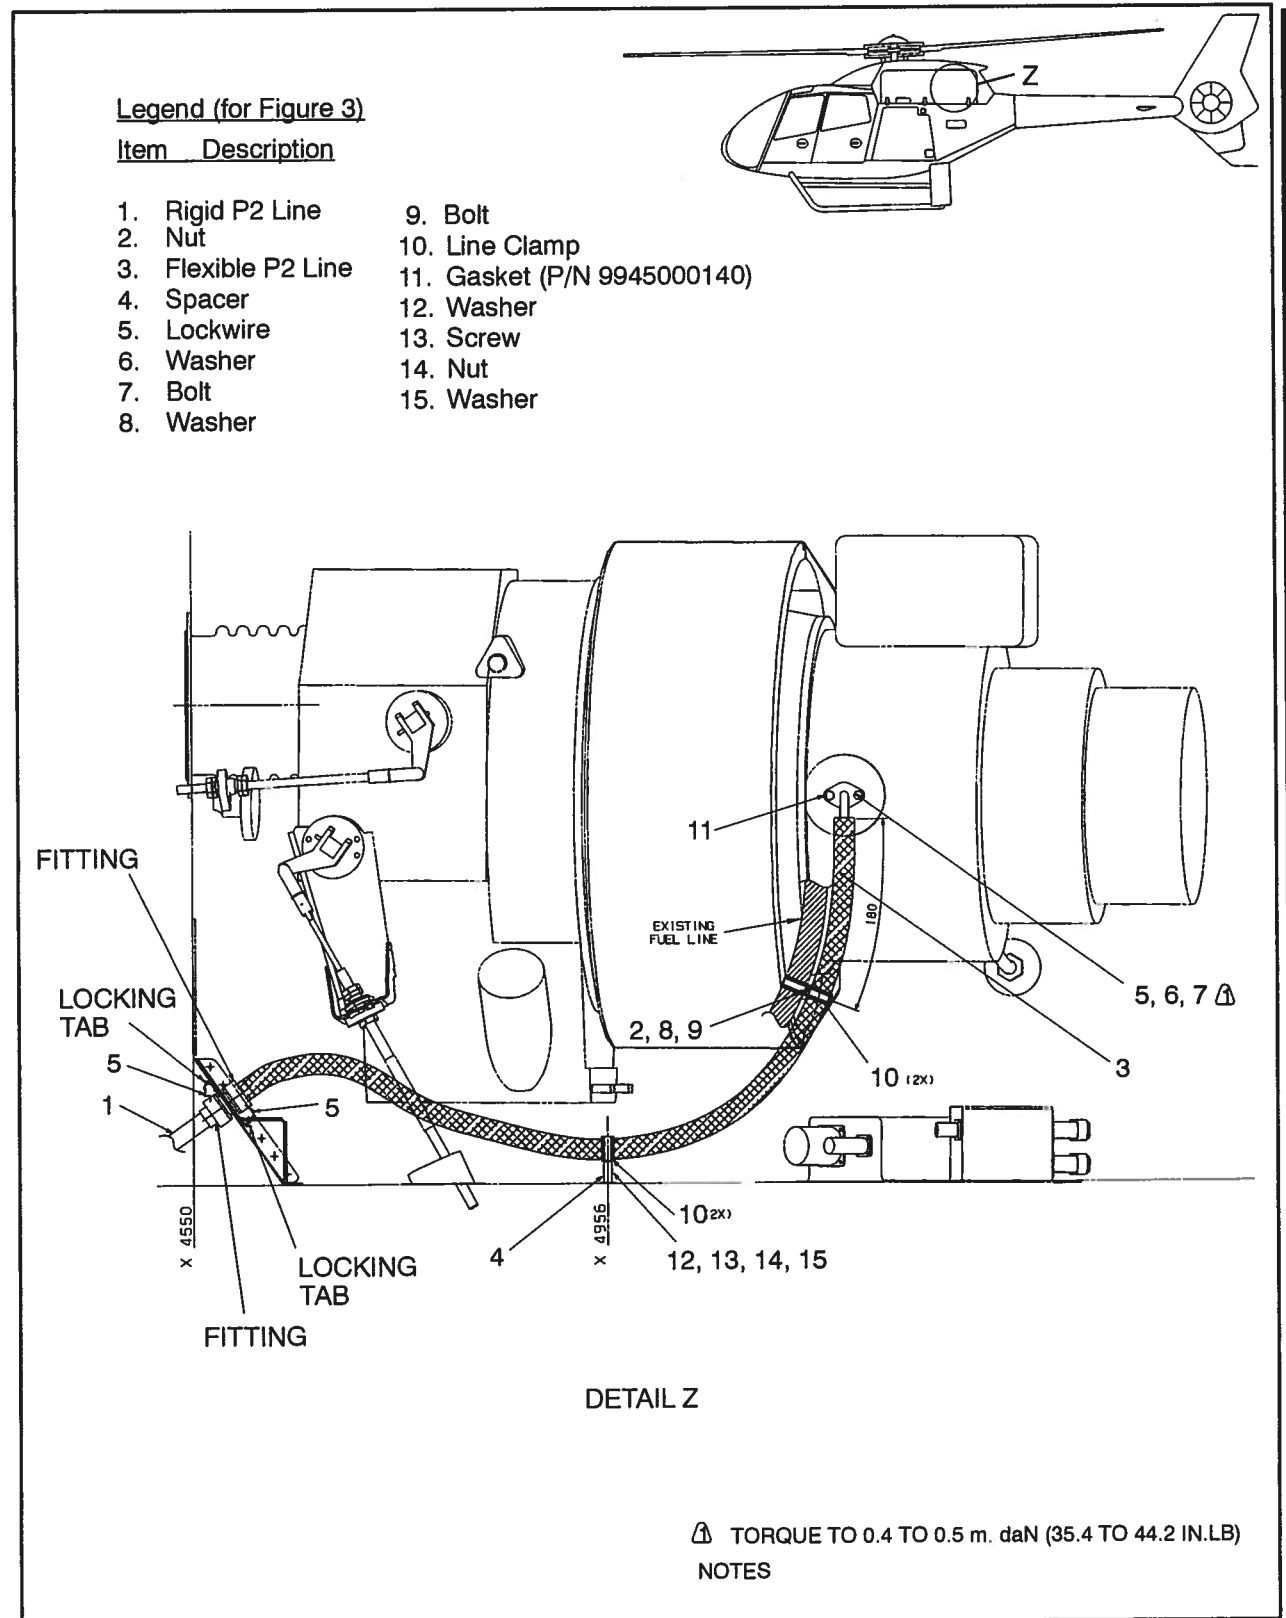

Figure 3 Engine LH P2 Port
The improved heating system takes the hot P2 air tapped from the LH engine port and then mixes it with outside air before it is fed through ducts under the front seats. Refer to Figure 3. The pilot operates a damper which controls the amount of heat supplied to the cabin through two outlets located under the forward seats.
1) Engine LH P2 Port (Refer to Figure 3)
- a) Remove bolt (9), nut (2), and washer (8) from line clamp (10). Remove line clamp (10) from fuel line and flexible P2 line (3).
- b) Remove screw (13), washer (12), spacer (4), washer (15), and nut (14) from line clamp (10). Remove line clamp (10).
- c) Remove lockwire (5), bolt (7), and washer (6) and remove flexible P2 line (3) from P2 Port on aircraft.